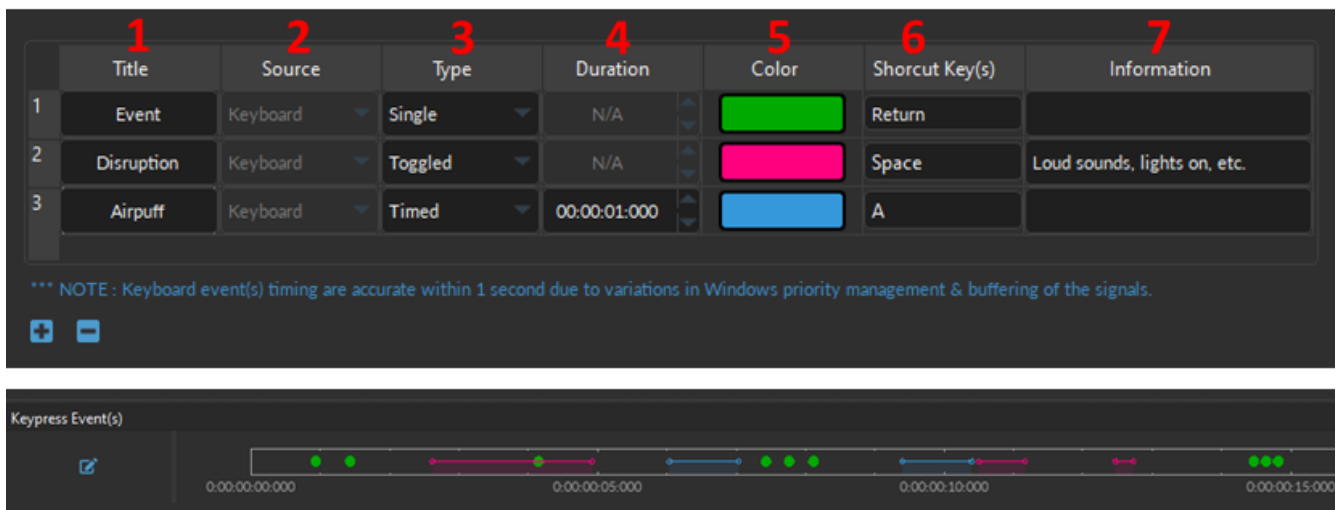

Figure 6.13: Channel(s) configuration window, Keypress Event(s)
The following are the configurable parameters of a **KeyPress Event**, per Fig. 6.13:
6. The **Shortcut Key(s)** can be any keyboard key, including space bar, enter, backspace, any letters, numbers, and special characters (*, !, ? etc.). To specify the key, click inside the *Shortcut Key(s)* cell, then press the keyboard key of choice. If a key was properly set, it will appear in the *Shortcut Key(s)* cell (as in Fig. 6.13, column 6).